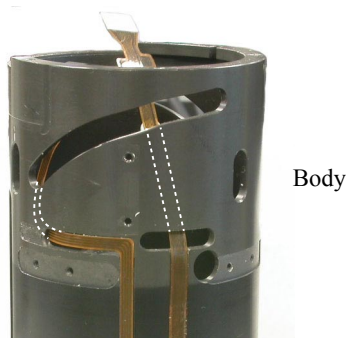

Fig.1
- Pass the FPC through the hole as shown in Fig.1, and put it into the lens body in position.